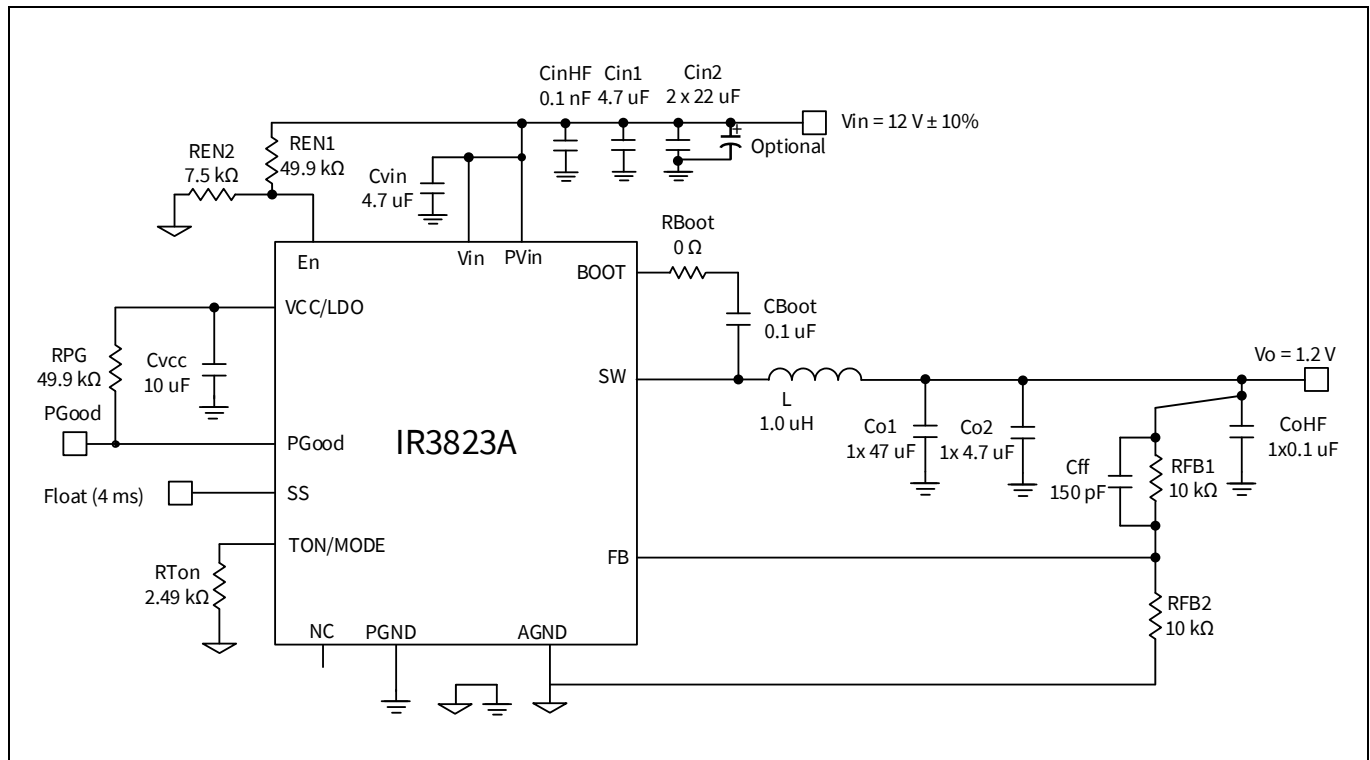

Figure 13 Application diagram of IR3823A. $P_{vin} = 12\text{ V}$, $V_o = 1.2\text{ V}$, $I_o = 3\text{ A}$, $f_{sw} = 1000\text{ kHz}$.
In this section, an example is used to demonstrate how to design a buck regulator with the IR3823A. The application circuit is shown in **Figure 13**. The design specifications are given below:
- To implement the V_o sensing, the following design guidelines should be followed, as illustrated in Figure 13.